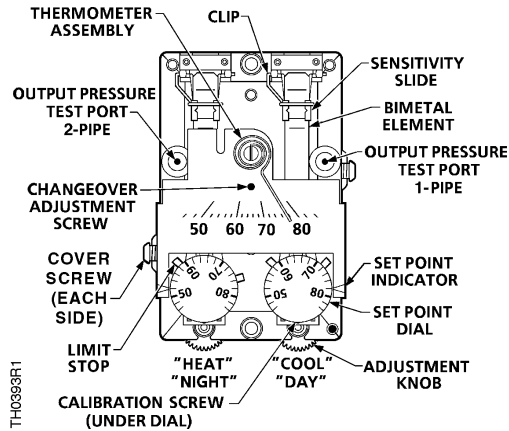

Figure 3. TH 193 HC Hesitation Thermostat Details.
2. Place a screwdriver in the center of the thermometer assembly (Figure 3). Carefully rotate thermometer assembly until pointer tip indicates the correct room temperature.